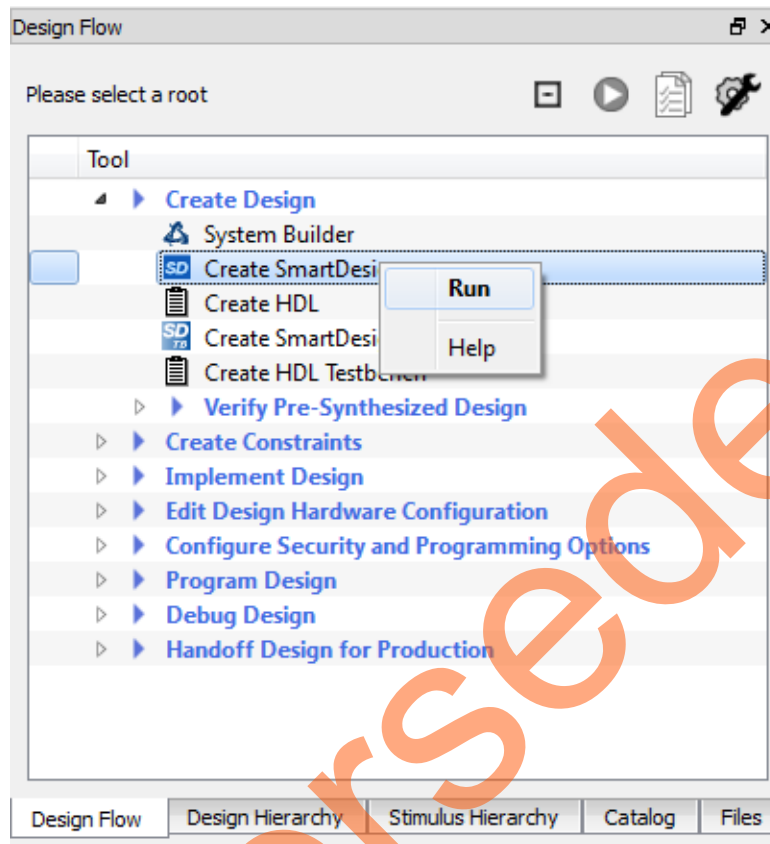

Figure 6 • Creating SmartDesign
10. Expand **Create Design** in the **Design Flow** tab as shown in Figure 6. Right-click **Create SmartDesign** and select **Run**.